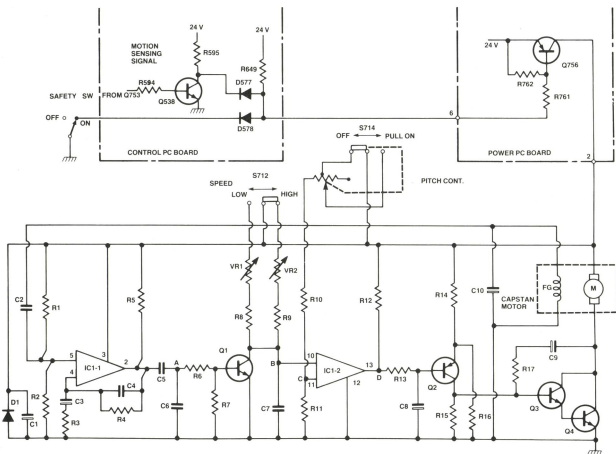

Figure 24. The servo speed control circuit used in the Tascam 35-2B deck.
The Teac Tascam 35-2B open-reel deck employs the servo circuit of Figure 24 for speed control of the capstan motor. When transistor Q756 is turned on by current to pin 6 of the power pc board, power is supplied to the capstan servo amplifier. The dc motor has frequency generator coils (FG) which produce a sine wave signal with a frequency and amplitude proportional to the speed of rotation of the motor. This signal is amplified and shaped by IC1-1 to produce a constant amplitude square wave which is differentiated and coupled to the monostable circuit comprising Q1 and IC1-2. The output of the latter is smoothed by C8, amplified by Q2, Q3 and Q4 and then drives the motor. The motor speed depends on the mean dc level at point D, which is determined by the pulse width T.